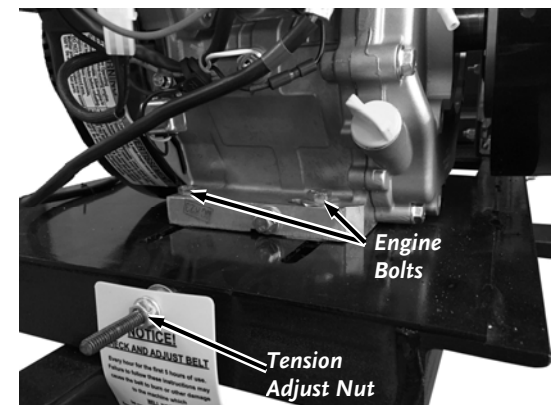

Figure 17
5. Loosen the four Engine Bolts (two in the Front and two in the Rear) using two 1/2" Wrenches (**Figure 17**).
6. Tighten or loosen the Tension Adjust Nut using a 1/2" Wrench to get the proper tension as described in Step 3 (**Figure 17**).